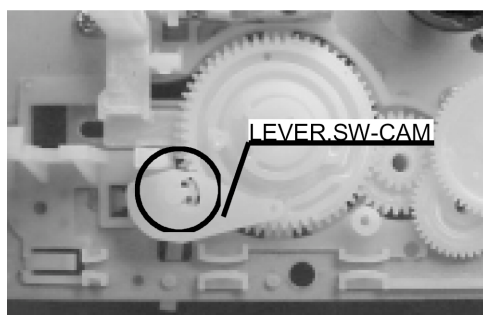

Fig.8-4
- 3) Disengage the detent (Fig. 8-4) of the LEVER, SW-CAM and remove the LEVER, SW-CAM.